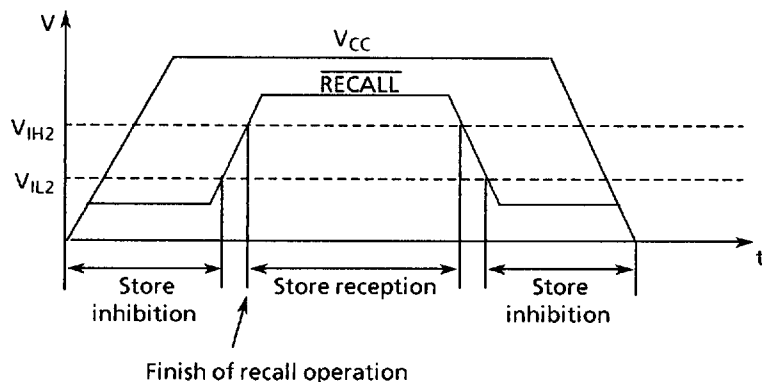

Figure 9 STORE inhibition period and reception period at power ON and OFF
- $\overline{\text{RECALL}}$ goes V_{IL2} when power turns on or off (see Figure 9).